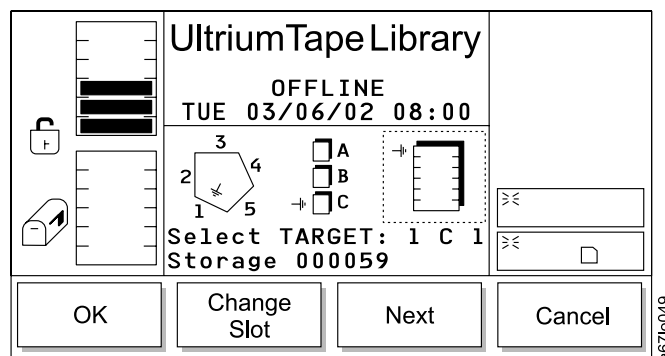

Figure 88. Change Slot Dialog
- If **Next** is selected, the current source parameter changes from magazine to slot and the Change Slot Dialog displays (see Figure 88).